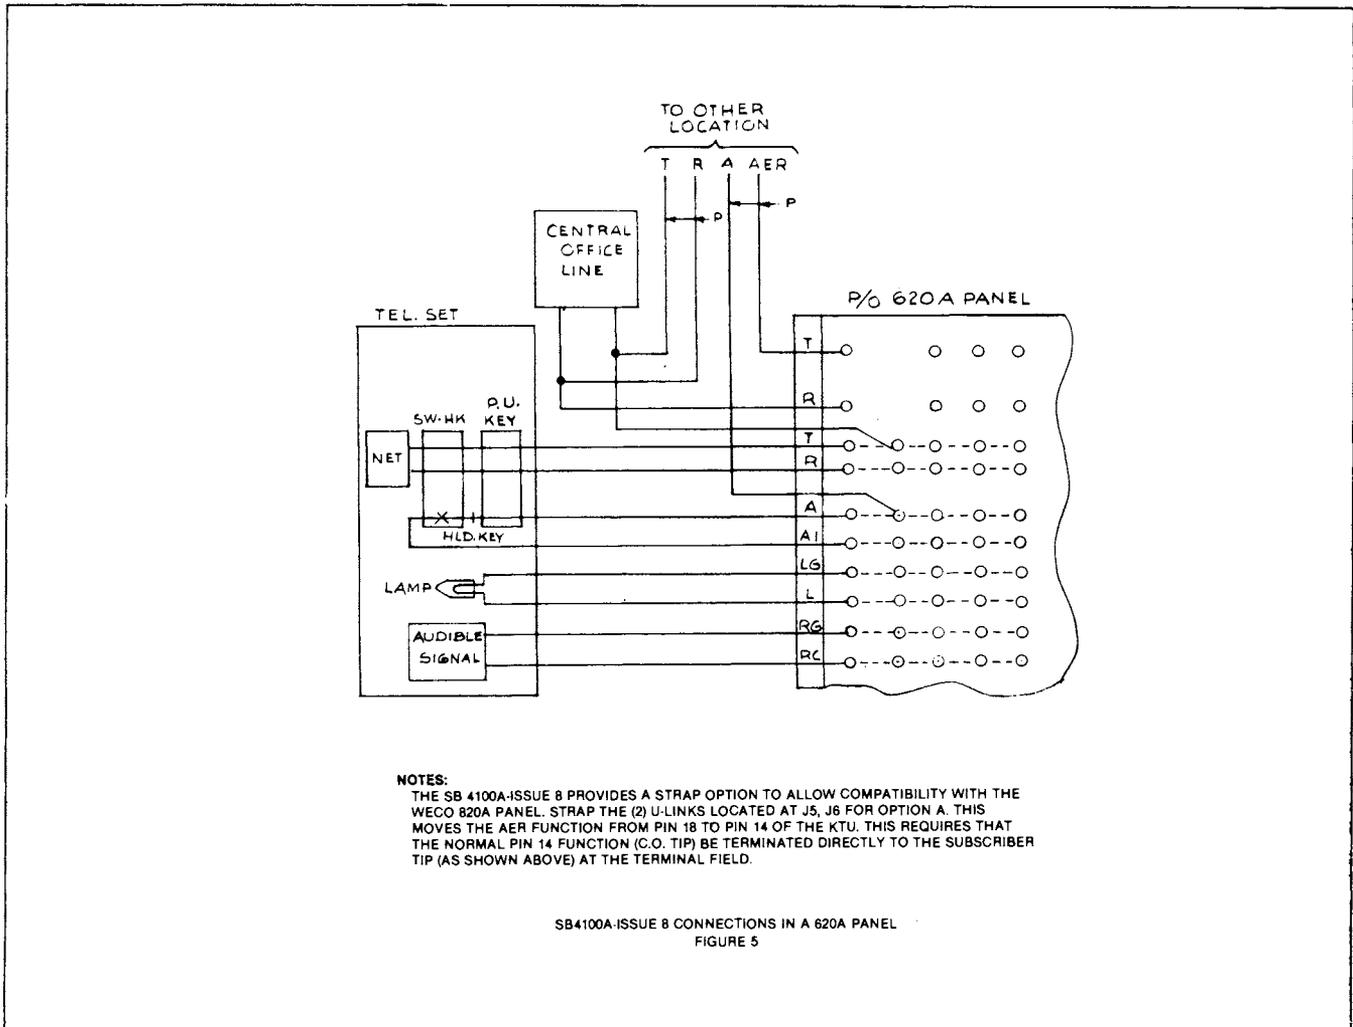

FIGURE 5
- 1.3 The ISSUE 8 Line Card has the additional feature of now being compatible with the W.E. 620A Panel (see Figure 5). The 4100A also provides MOH compatibility with Comkey systems plus an option for 50/500 ms Delayed Hold Release.
6.0 CIRCUIT DESCRIPTION (See Figure 5)